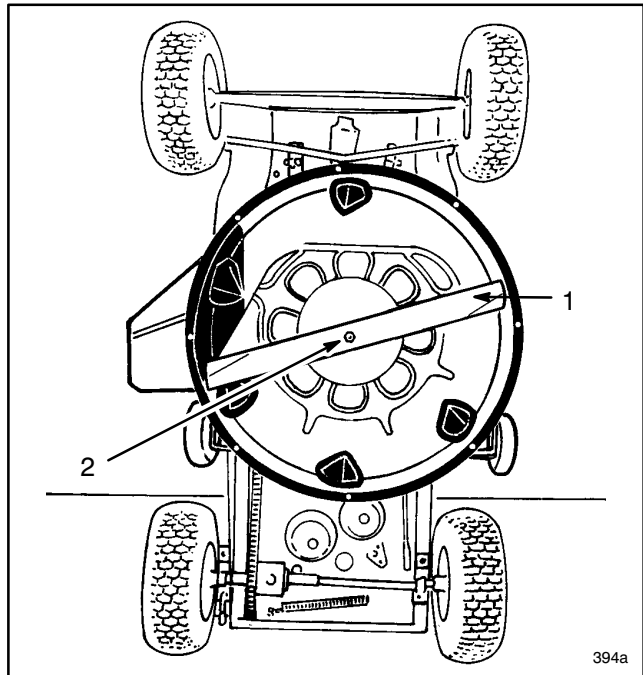

Figure 15
6. Grasp end of blade using a rag or thickly padded glove; then remove blade bolt, washer and blade (Fig. 15).
9. In sequence, reinstall blade, washer and blade bolt (Fig. 15). Tighten blade bolt to 45-60 ft-lb (61-81 N·m).